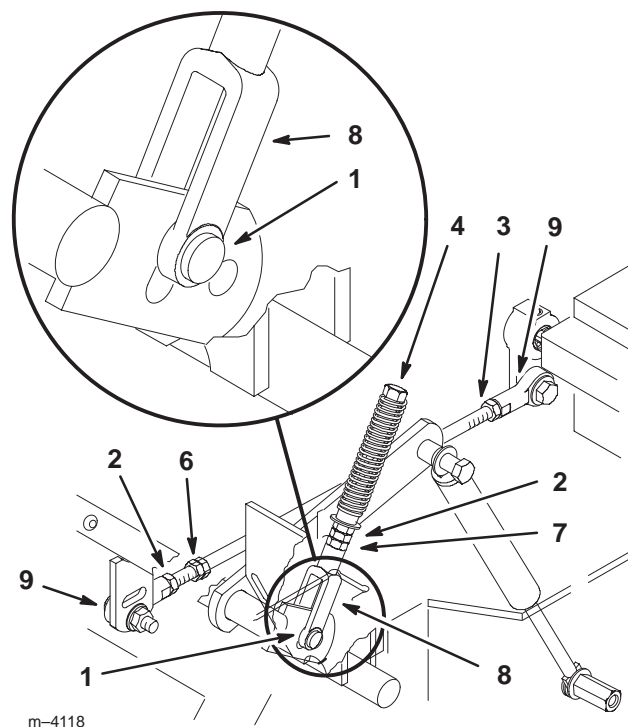

Figure 50
4. Pull lever back until the clevis pin (on arm below pivot shaft) contacts the end of the slot (just beginning to put pressure on the spring) (Fig. 50).
6. If adjustment is needed, loosen the nut and jam nut against the yoke (Fig. 50).
8. Tighten the nut and jam nut (Fig. 50).
1. Loosen the locknuts at the ball joints on pump control rod (Fig. 50).
3. Adjust pump rod length by rotating double nuts on rod, in the appropriate direction, until wheel is still or slightly creeps in reverse (Fig. 50).
6. Tighten the nuts at the ball joints (Fig. 50).